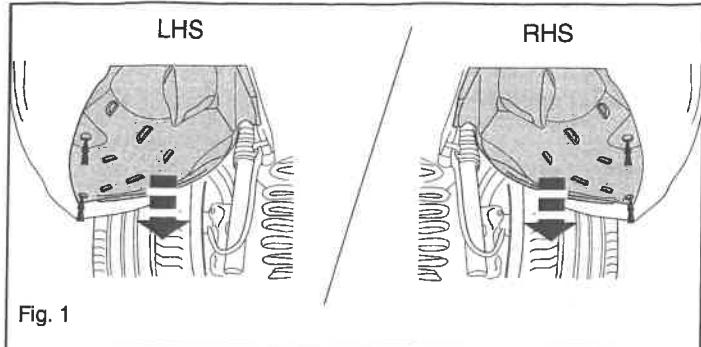

Fig. 1
- Remove the plastic protective caps. See figure 1.